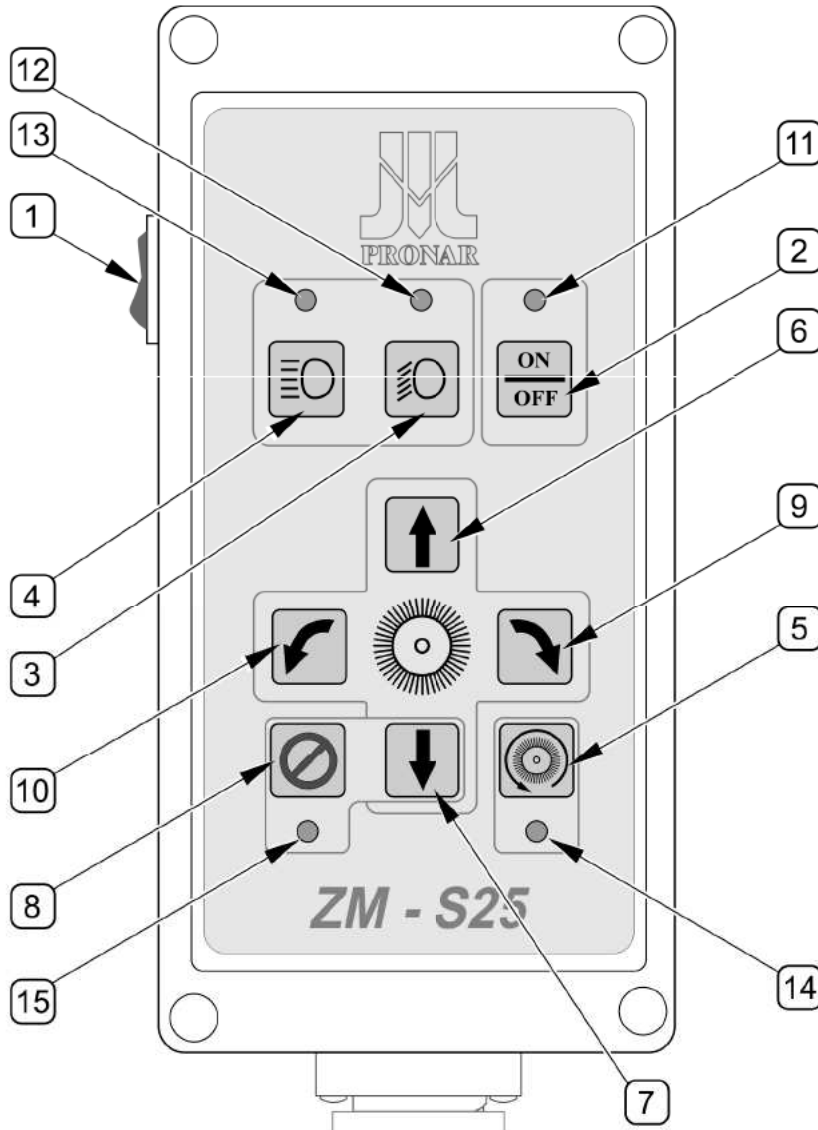

FIG. 4.10 Arrangement of controls on the control panel (ZM-S25)
(1) - main switch of control panel; (2) - main switch of lights and clearance lights; (3) - dipped beam switch; (4) - high beam switch; (5) - brush drive switch; (6) - brush rising push-button; (7) - brush lowering push-button; (8) - linking push-button; (9) - push-button of brush turning to the right; (10) - push-button of brush turning to the left; (11) - clearance lights ON indicator light; (12) - dipped beam ON indicator light; (13) - high beam ON indicator light; (14) - brush drive ON indicator light; (15) - "linking" function indicator light
Control panel (FIG. 4.10) is protected against accidental use by the main switch (1).